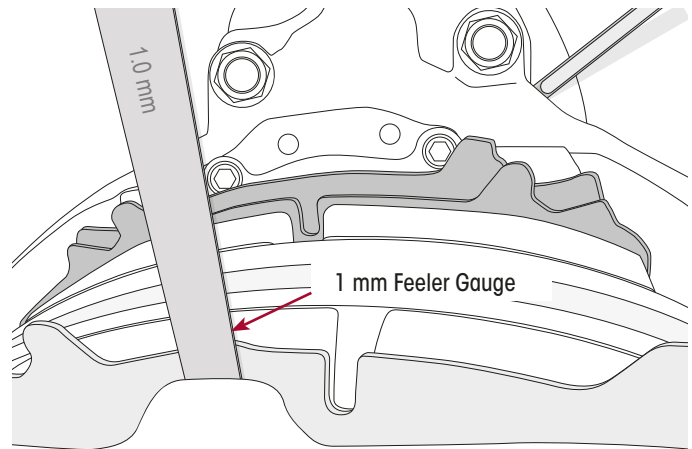

Figure 141: Use Spanner to Set Clearance
- 9a. , HTD-377, HTD-430 and MAXX22T HTD-415 callipers have one central tappet. Adjust brake pad clearance to 1 mm (0.040") using a long feeler gauge in the centre of the pad, between the outboard side of the calliper and the back of the brake pad. After completing adjustment, remove feeler gauge and rotate wheel hub to ensure it spins freely without any brake drag. Refer Figure 141.